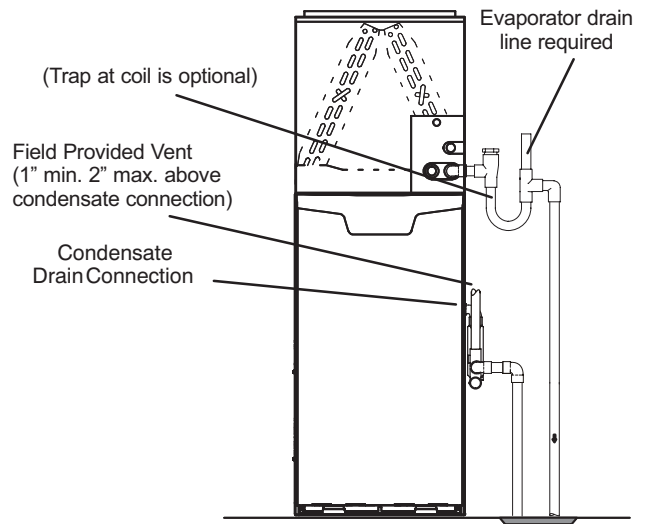
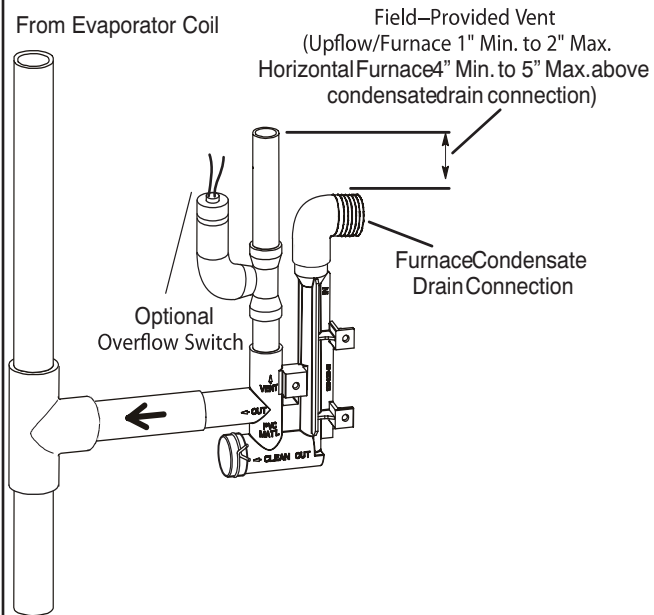
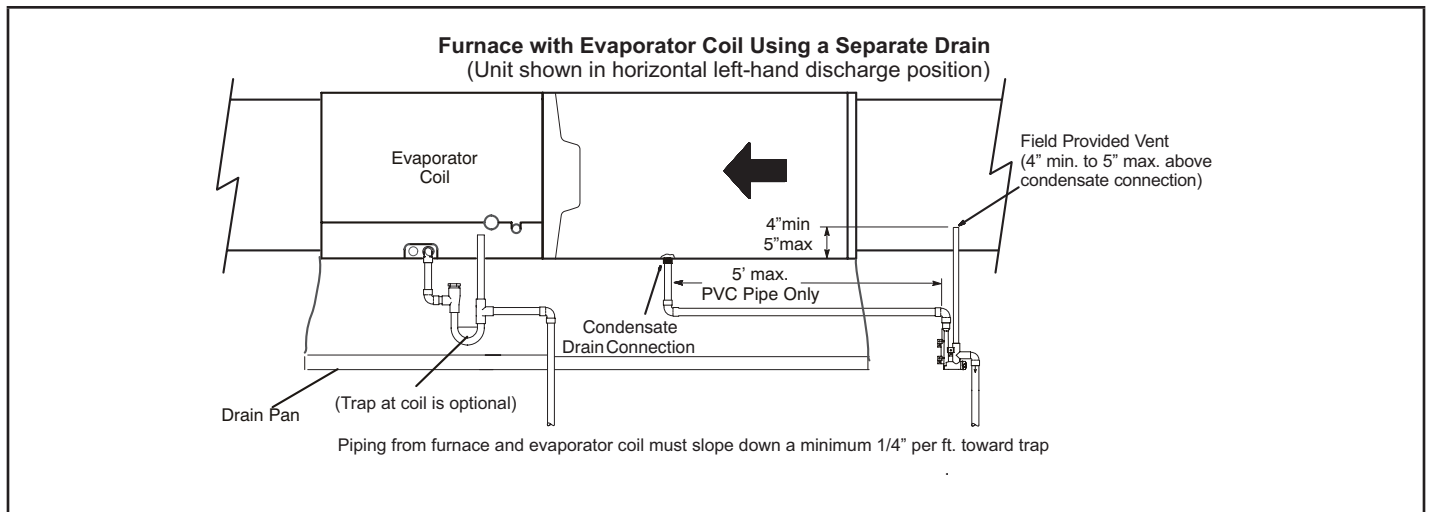
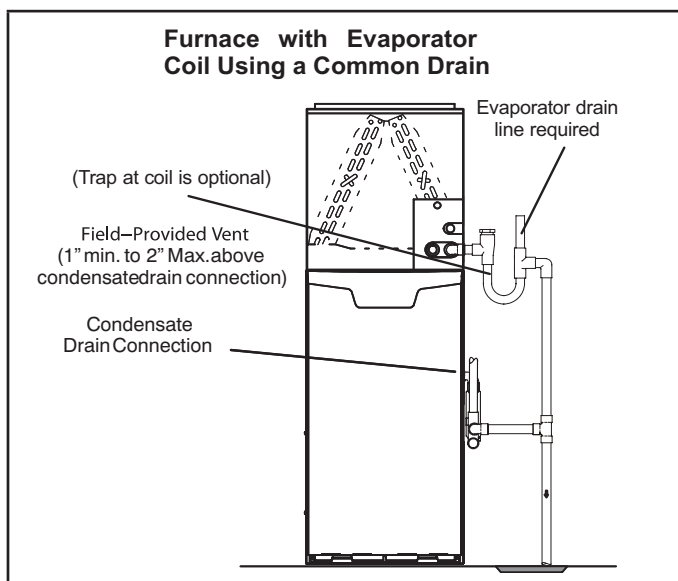

FIGURE 44
FIGURE 43
FIGURE 45
FIGURE 46
- 5 - FIGURE 44 and FIGURE 45 show the furnace and evaporator coil using a separate drain. If necessary the condensate line from the furnace and evaporator coil can drain together. See FIGURE 43, FIGURE 46 and FIGURE 47. *Upflow furnace (FIGURE 46)* - In upflow furnace applications the field provided vent must be a minimum 1" to a maximum 2" length above the condensate drain outlet connection. Any length above 2" may result in a flooded heat exchanger if the combined primary drain line were to become restricted. *Horizontal furnace (FIGURE 47)* - In horizontal furnace applications the field provided vent must be a minimum 4" to a maximum 5" length above the condensate drain outlet connection. Any length above 5" may result in a flooded heat exchanger if the combined primary drain line were to become restricted.